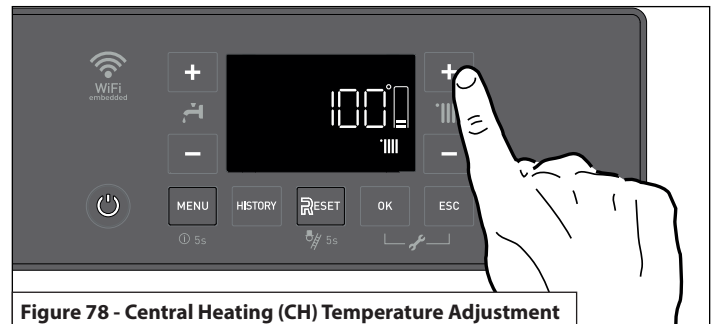

Figure 78 - Central Heating (CH) Temperature Adjustment
C. Central Heating (CH) Temperature Adjustment
It is possible to adjust the central heating (CH) temperature setpoint from the home screen by pressing the CH +/- buttons. See Figure 78. The allowable operating range is limited by the Max and Min Temperature Settings (e.g., Parameters 4.2.5 and 4.2.6) which are adjustable via the Technical Menu. See P. Technical Menu - Access and Navigation.